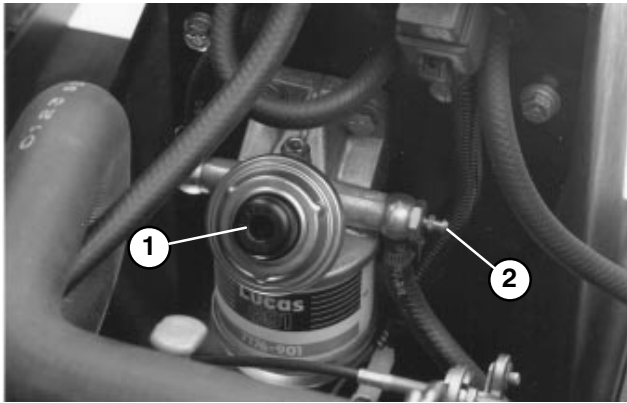

Figure 14
PRIMING FUEL SYSTEM (Fig. 14 & 15)
3. Loosen fuel filter / water separator bleed screw (Fig. 14) a few turns. Pump priming plunger until a steady stream of fuel comes out of hole in bleed screw. When fuel stops foaming, tighten the bleed screw during the downstroke of the priming plunger. Wipe up any spilled fuel.